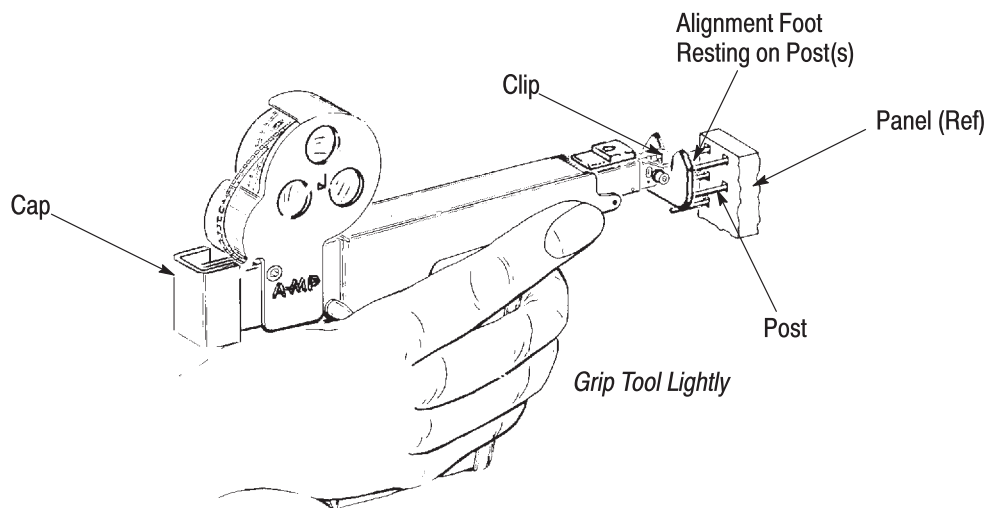

Figure 7
3. Hold the tool perpendicular to the panel, and slip the exposed clip over the end of the post. See Figure 7.
6. With the trigger released, push the cap (refer to Figure 7) fully forward to reset the tool for the next termination.